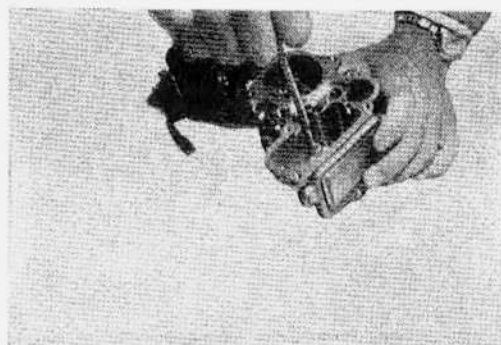

Figure 136
- (10) Assemble on metering rod jet (Fig. 136).